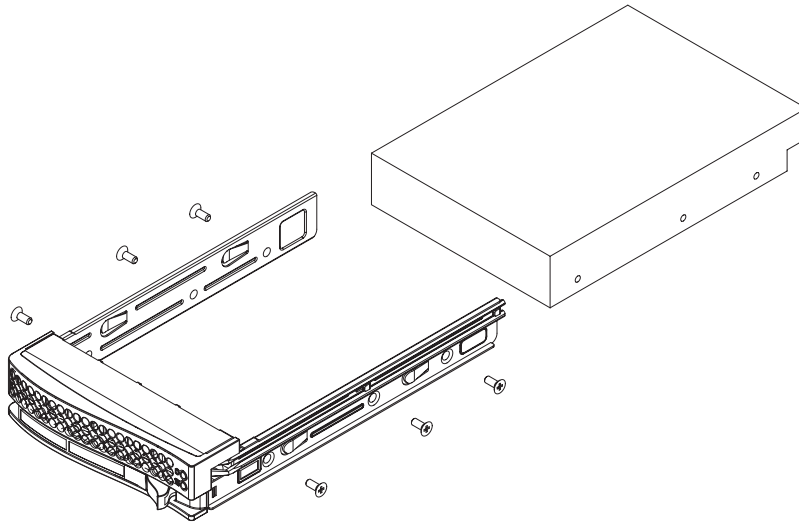

Figure 6-3 Mounting a SATA Drive in a Carrier
2. Secure the drive to the carrier with four screws, as shown in Figure 6-3.